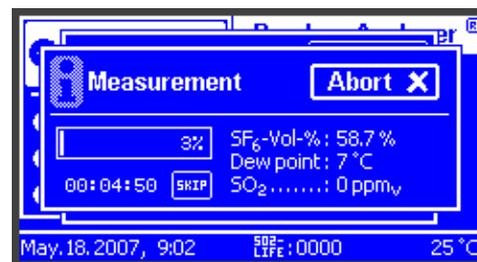

Fig. 6.10
3. After initializing the measurement process by confirming the dialog (see 6.09), the test runs automatically and lasts (according to the instrument's settings, see chapter 6.5) some minutes. During the measurement all sensor values and their changes are displayed permanently (fig. 6.10). If the values of the three are under the adjusted criteria for contamination it is possible to skip the remaining measuring time by executing the skip button and show the result of the measurement directly. The final result is displayed at the end of the measurement (fig. 6.11). The indicated values are: SF₆-percentage, moisture